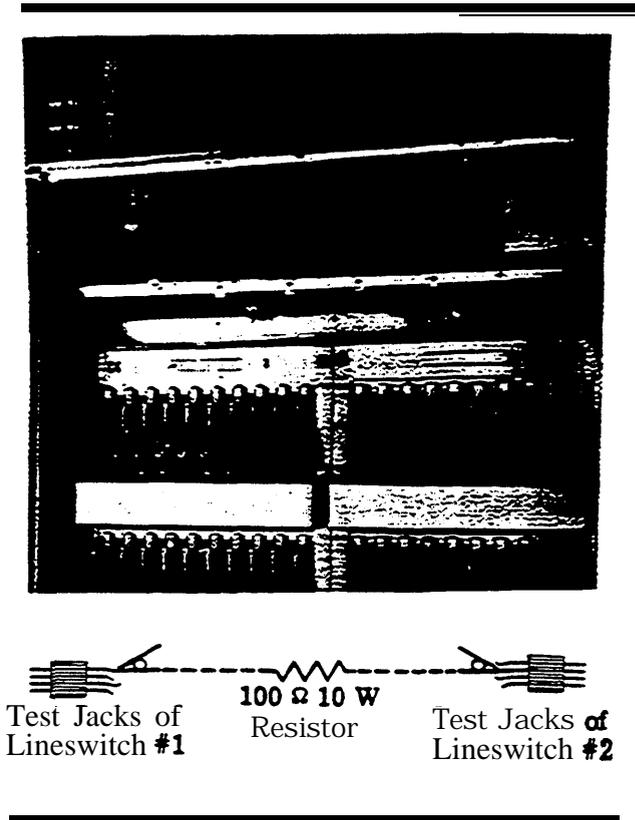

Figure 13. View of a Portion of a Primary Rotary Lineswitch Bay to Show Location of Alarm Lamps on Top of Bay. Line Drawing Shows Placement of Resistance Cord.
3.22 Cross positive side of one line with negative side of another **line** in the same bay. (See Fig. 13.)